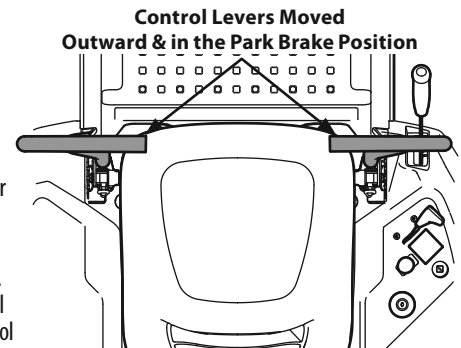

Figure 19
1. Operator should be sitting in the tractor seat with the lapbar drive control levers fully out and in the park position. See Figure 19. Refer to Practice Operation for further instructions.